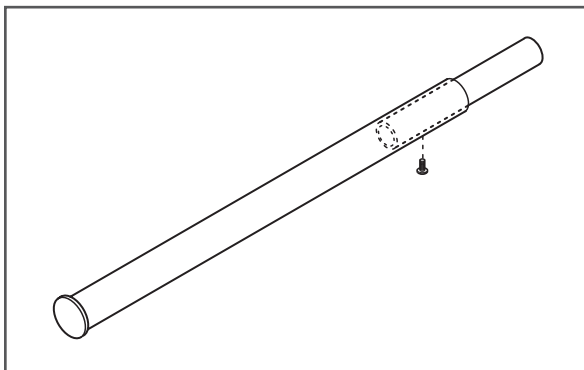

Figure 2
2. Insert the set screw (provided) into the hole in the track segment. Tighten the set screw (Figure 2).